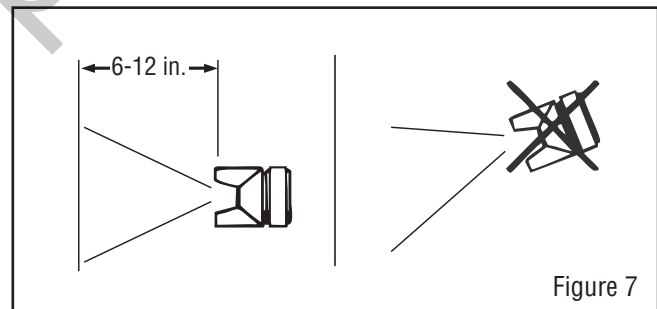

Figure 7
5. Keep spray gun (A) at the right angle of 90 degrees to the surface being covered while spraying. (See Figure 7)